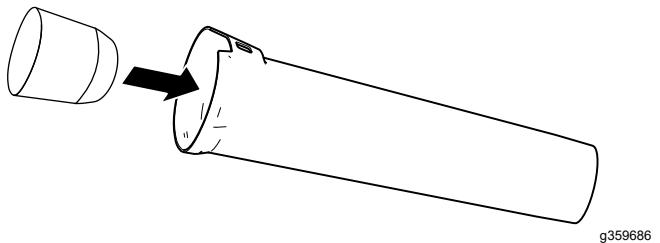

Figure 2
1. Install the blower nozzle into the into the tube (Figure 2).